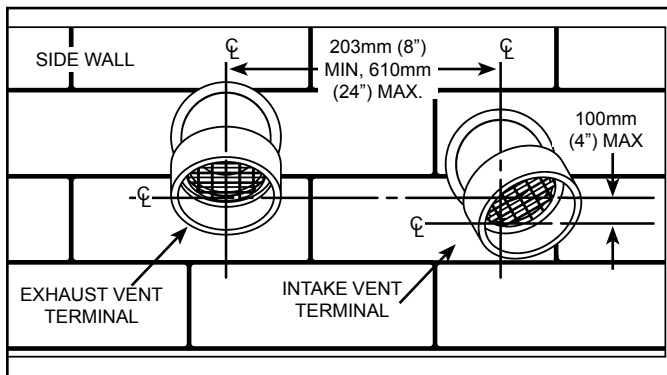

Figure 20
**Important:** When terminating the vent on a side wall, the following specifications pertaining to terminal location must be followed (see Figure 20).
4. To avoid exhaust recirculation, the air intake terminal may be rotated away from the exhaust vent terminal (see Figure 20).